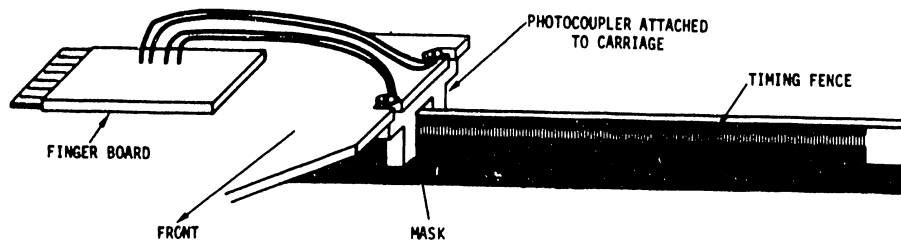

FIGURE 5-14 PHOTOCOUPLER REMOVAL AND REPLACEMENT
- 2) Loosen the two holding screws clamping the photocoupler to the carriage and slide the photocoupler out. See Figure 5-14.